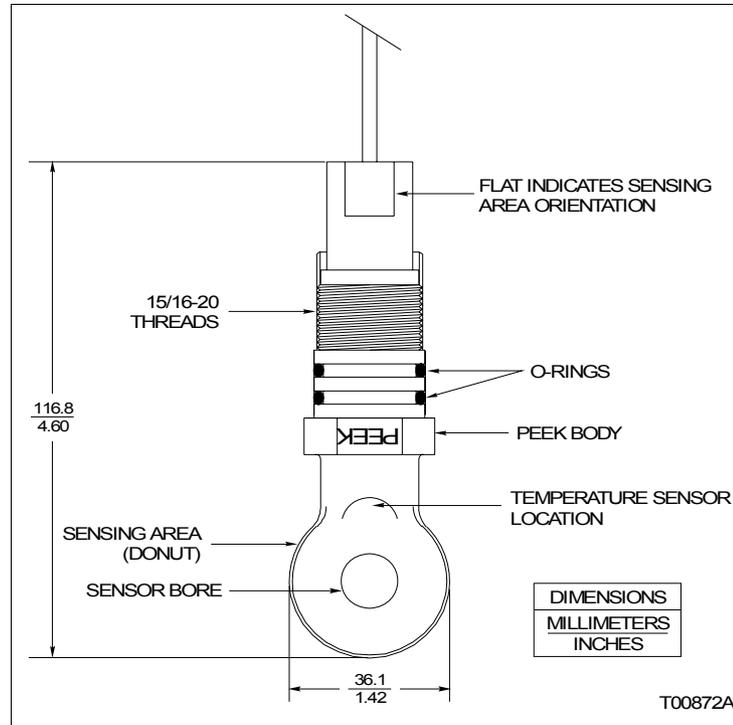

Figure 2-1. Type TB4042 Sensor
The Type TB404 sensor employs an encapsulated design that makes it ideal for aggressive and harsh process streams. Sensor variations accommodate submersible installations such as tanks and open vessels or waterways, pipelines, and sanitary pipelines and tanks with two-inch tri-clamp fittings. Figure 2-1 shows the anatomy of the Type TB4042 sensor.
- The solution around the sensing area (Fig. 2-1) must be representative of the bulk solution.
**NOTE:** The temperature sensor is located at the sensing area on the same side as the embossed PEEK insignia (Fig. 2-1).